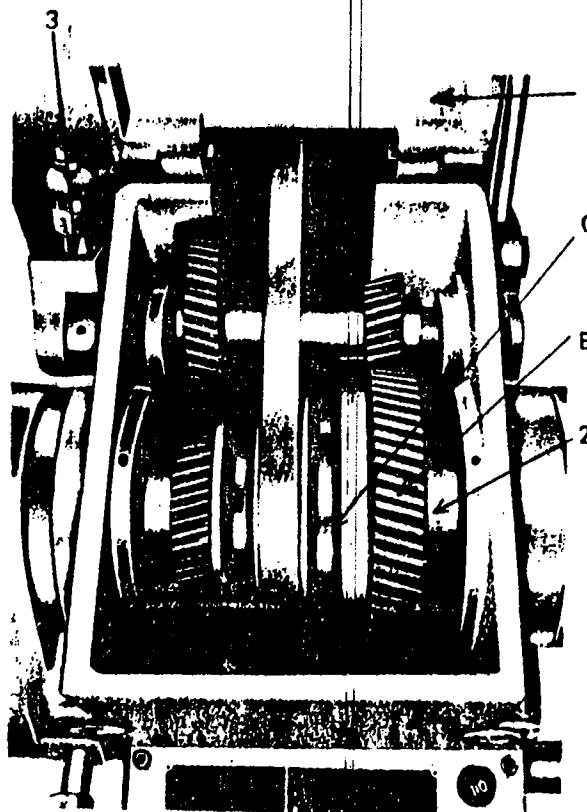

FIG 1
2. Raise headstock cover (1, Fig 1) and pull out lock pin (2, Fig 1), disengaging bull gear (B) from spindle pulley (C).
3. Move back gear lever (3, Fig 1) to engaged position by pulling on knob, then pushing down and in. It may be necessary to rotate spindle pulley by hand so gears will mesh.
2. Pull belt tension lever (4, Fig. 1) downward to loosen belt tension.